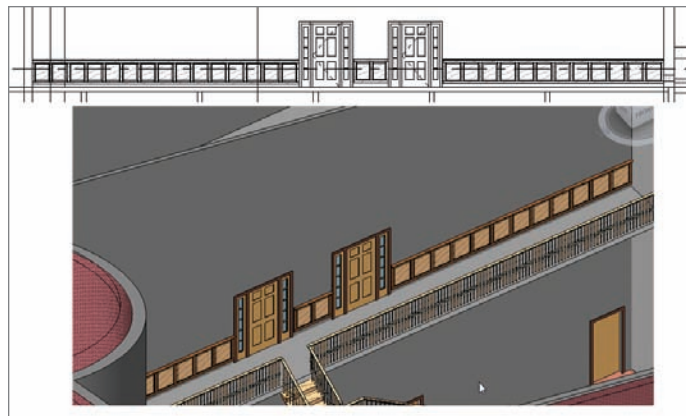

FIGURE 10.80 The finished raised panel, line-based family
21. Change Frame Material to Wood - Mahogany. See Figure 10.80.